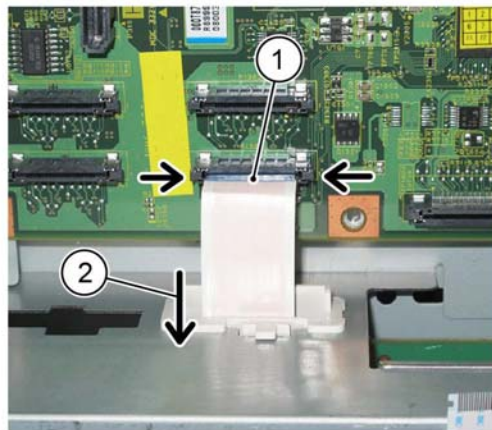

Figure 5 FFC cable
6. Disconnect the FFC cable, Figure 5:
- Carefully disconnect the FFC cable (1) by releasing the side clips.
- Pull down the FFC cable (2).